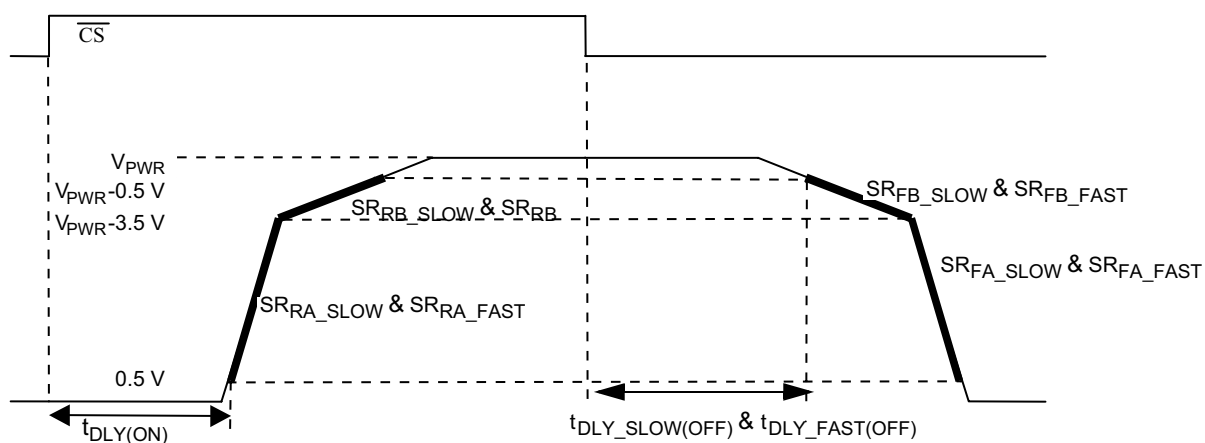

Figure 4. Output Slew Rate and Time Delays
- Rise and Fall Slew Rates A measured across a  $5.0\ \Omega$  resistive load at high-side output =  $0.5\text{ V}$  to  $V_{PWR}-3.5\text{ V}$  (see Figure 4, page 12). These parameters are guaranteed by process monitoring.
- Rise and Fall Slew Rates B measured across a  $5.0\ \Omega$  resistive load at high-side output =  $0.5\text{ V}$  to  $V_{PWR}-3.5\text{ V}$  (see Figure 4). These parameters are guaranteed by process monitoring.